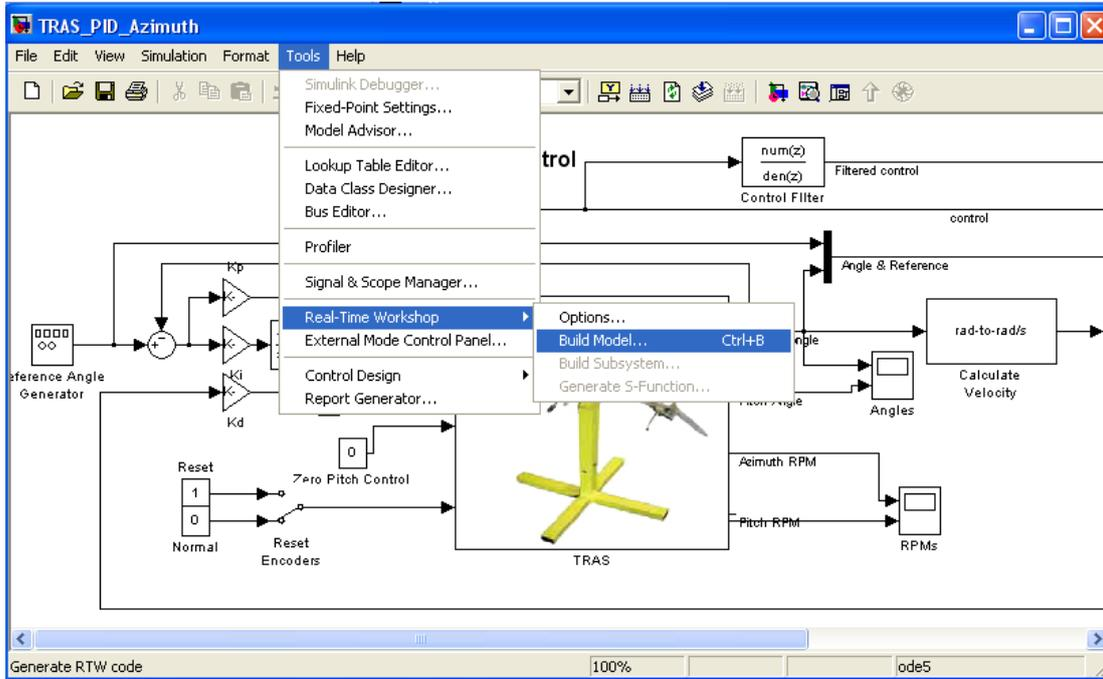

Fig. 5.1. Creating the real-time code using RTW and RT-CON
- build the executable file under RT-CON (see Fig. 5.1),
Suppose we have designed the *My\_System* model shown below in Fig. 5.1. This model was created as a copy of any real-time model contained in the INTECO software.
The simplest way to create a Simulink model of the control system is to use one of the models included in the INTECO's software. as a template. For example, click any model and save it as *MySystem* name. The *MySystem* Simulink model is shown in Fig. 5.1.